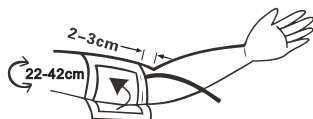

FIGURE 4: Proper Connection of the cuff and arm
- Insert your arm through the cuff. Position the edge of the cuff about 2~3cm above the elbow. Position the air tubing so that it is on the inside of the arm as it returns to the monitor. See Figure 4.